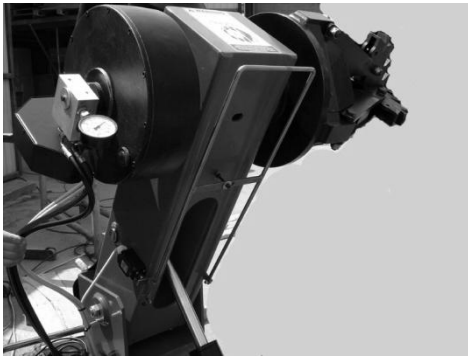

Fig21 Safety micro-switch
- 3 Safety micro-switch (Fig21)